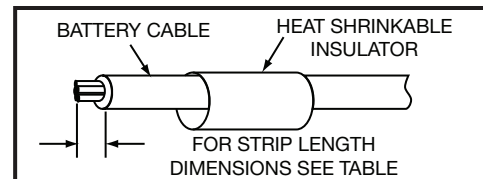

FIGURE 1
2. Carefully strip insulation from cable without nicking cable strands. See Figure 1.